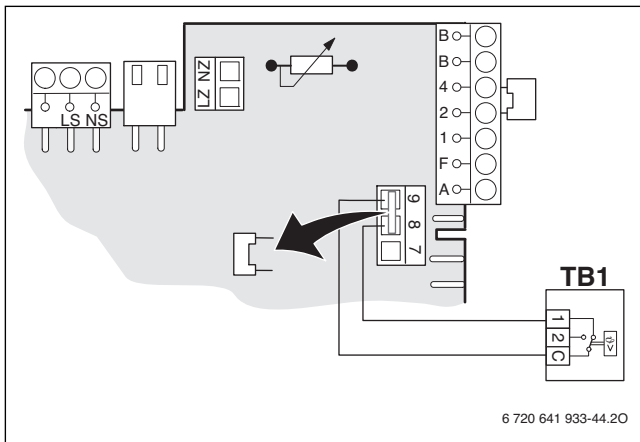

Fig. 46 Electrical wiring TB1
- ▶ Connect the leads labeled SWITCH CONTACT (yellow) to the TB1 temperature guard (→ Fig 46, page 47) on the Heatronic.